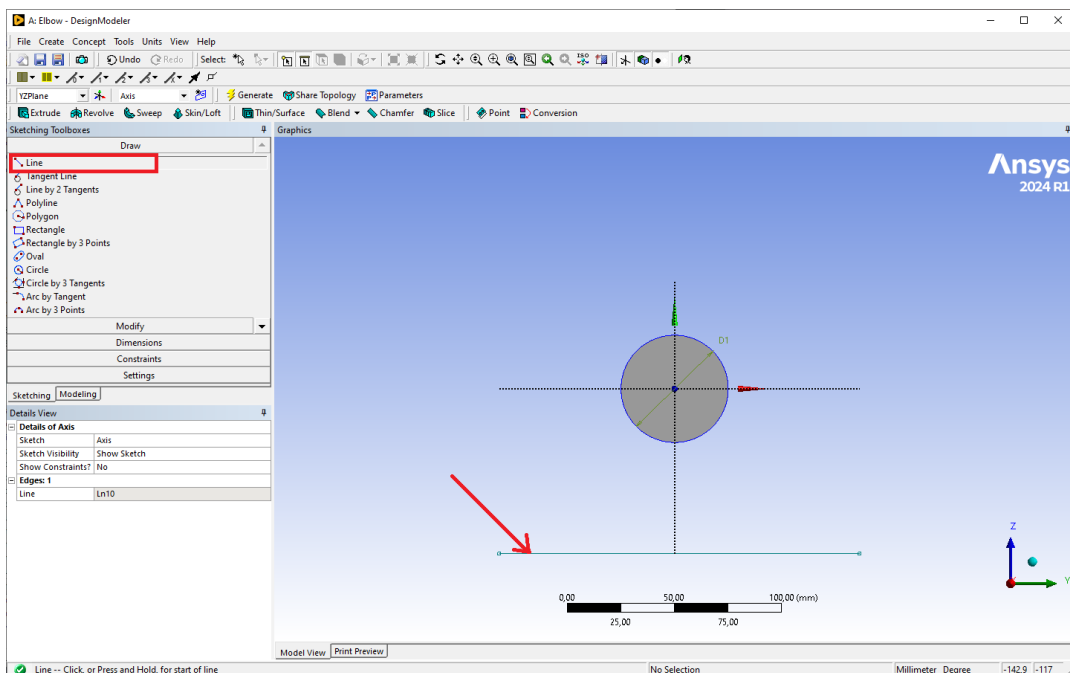

Figure 15: Horizontal axis for the sketch *Axis*.
- Draw a horizontal line below the circumference, keeping the left mouse button pressed. To do this, make sure that there is a letter 'H' near the line, to indicate that the line is arranged horizontally: the result will be as in figure 15;